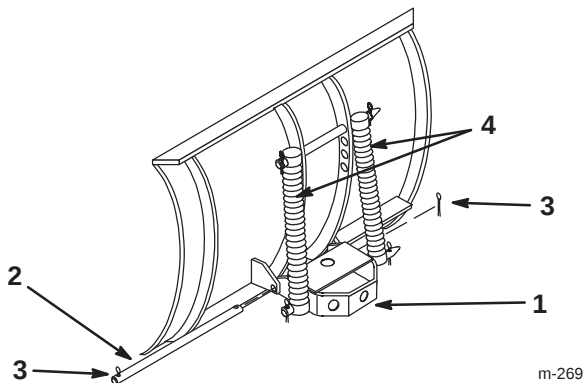

Figure 2
1. Lift and rotate the channel and trip spring assembly so that the holes align with the lower blade mounts (Fig. 2).
2. Slide the rod through the holes and secure it with 2 cotter pins (1 inch) as shown in Figure 2.